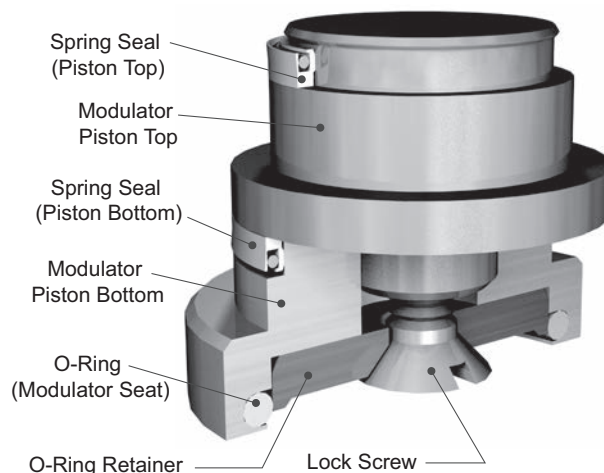

Figure 62: Modulator Piston Assembly
- h. Final Modulator Piston Assembly is shown in Figure 62.